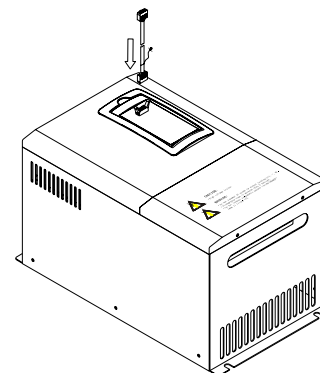

Fig. 3-14 Mounting Diagram for the operator panel and connecting wire of the inverter Model B
Step 3. Plug the grounding end of connecting wire into the slot of jack panel (as shown in the figure 3-14).